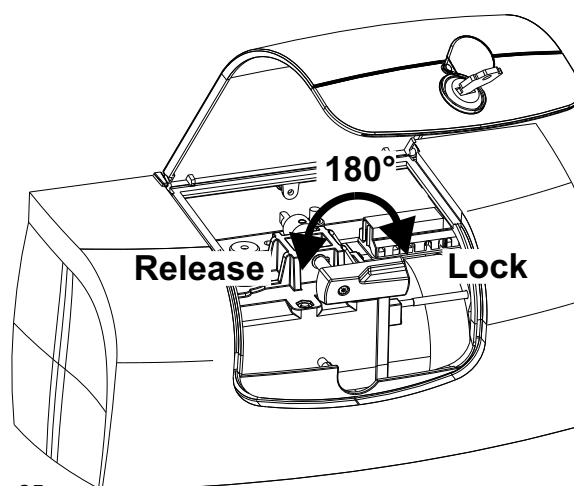

Fig. 25
- Turn the red release lever about 180° counterclockwise (Fig.25).
- Turn the red release lever about 180° clockwise (Fig.25).